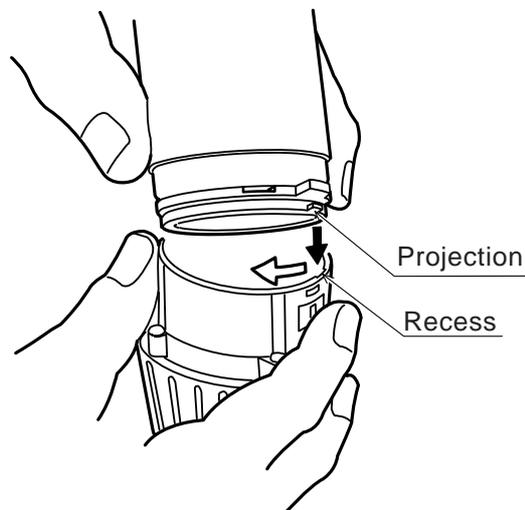

Fig. 9
(f) Install the reassembled state in step (1) and the reassembled state in step (e) together. (See Fig. 9.)